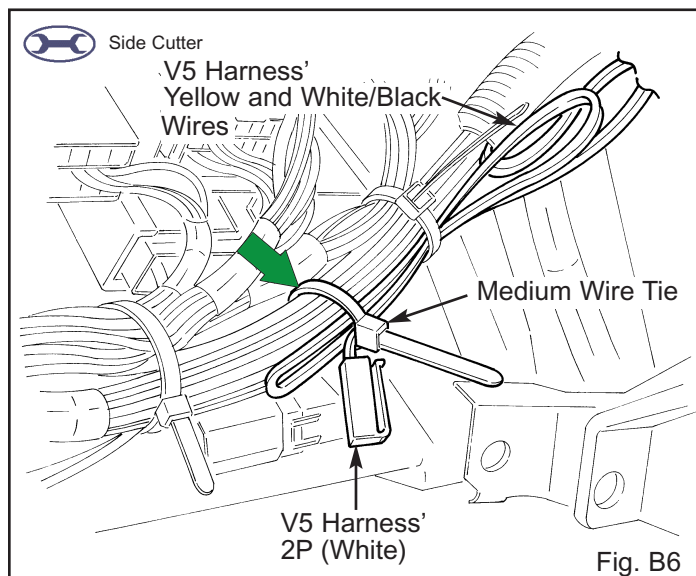

Fig. B6
9. Secure the V5 harness' status monitor 2P connector to the V5 harness with one medium wire tie. (Fig. B6)